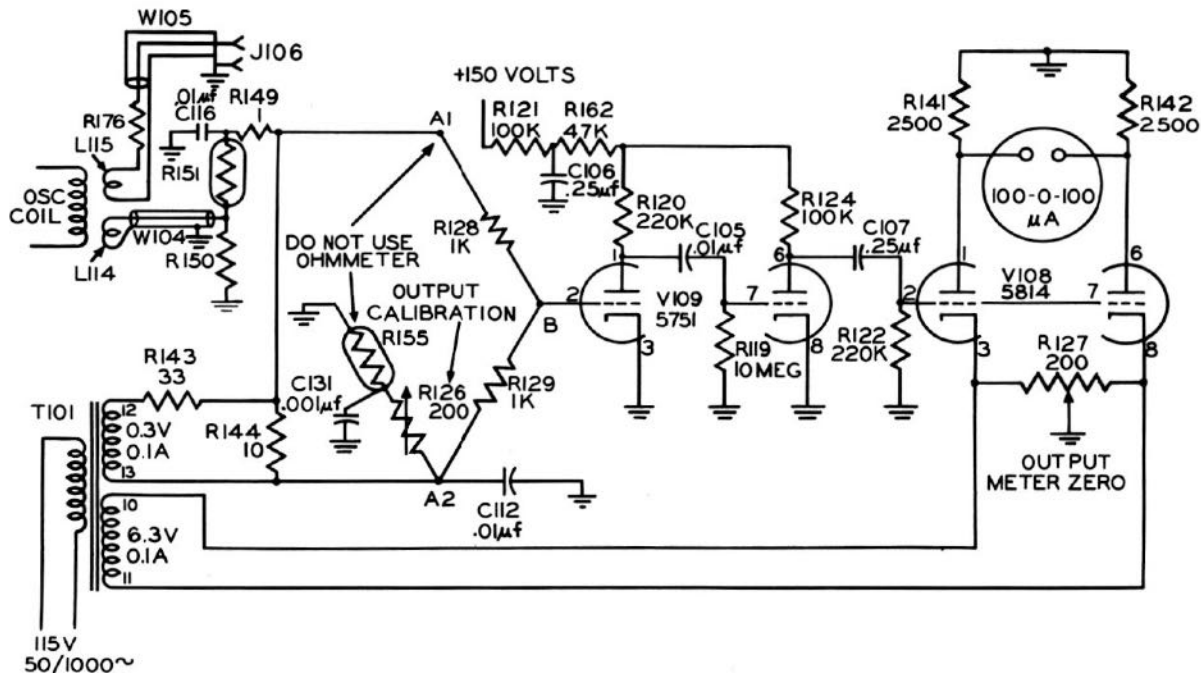
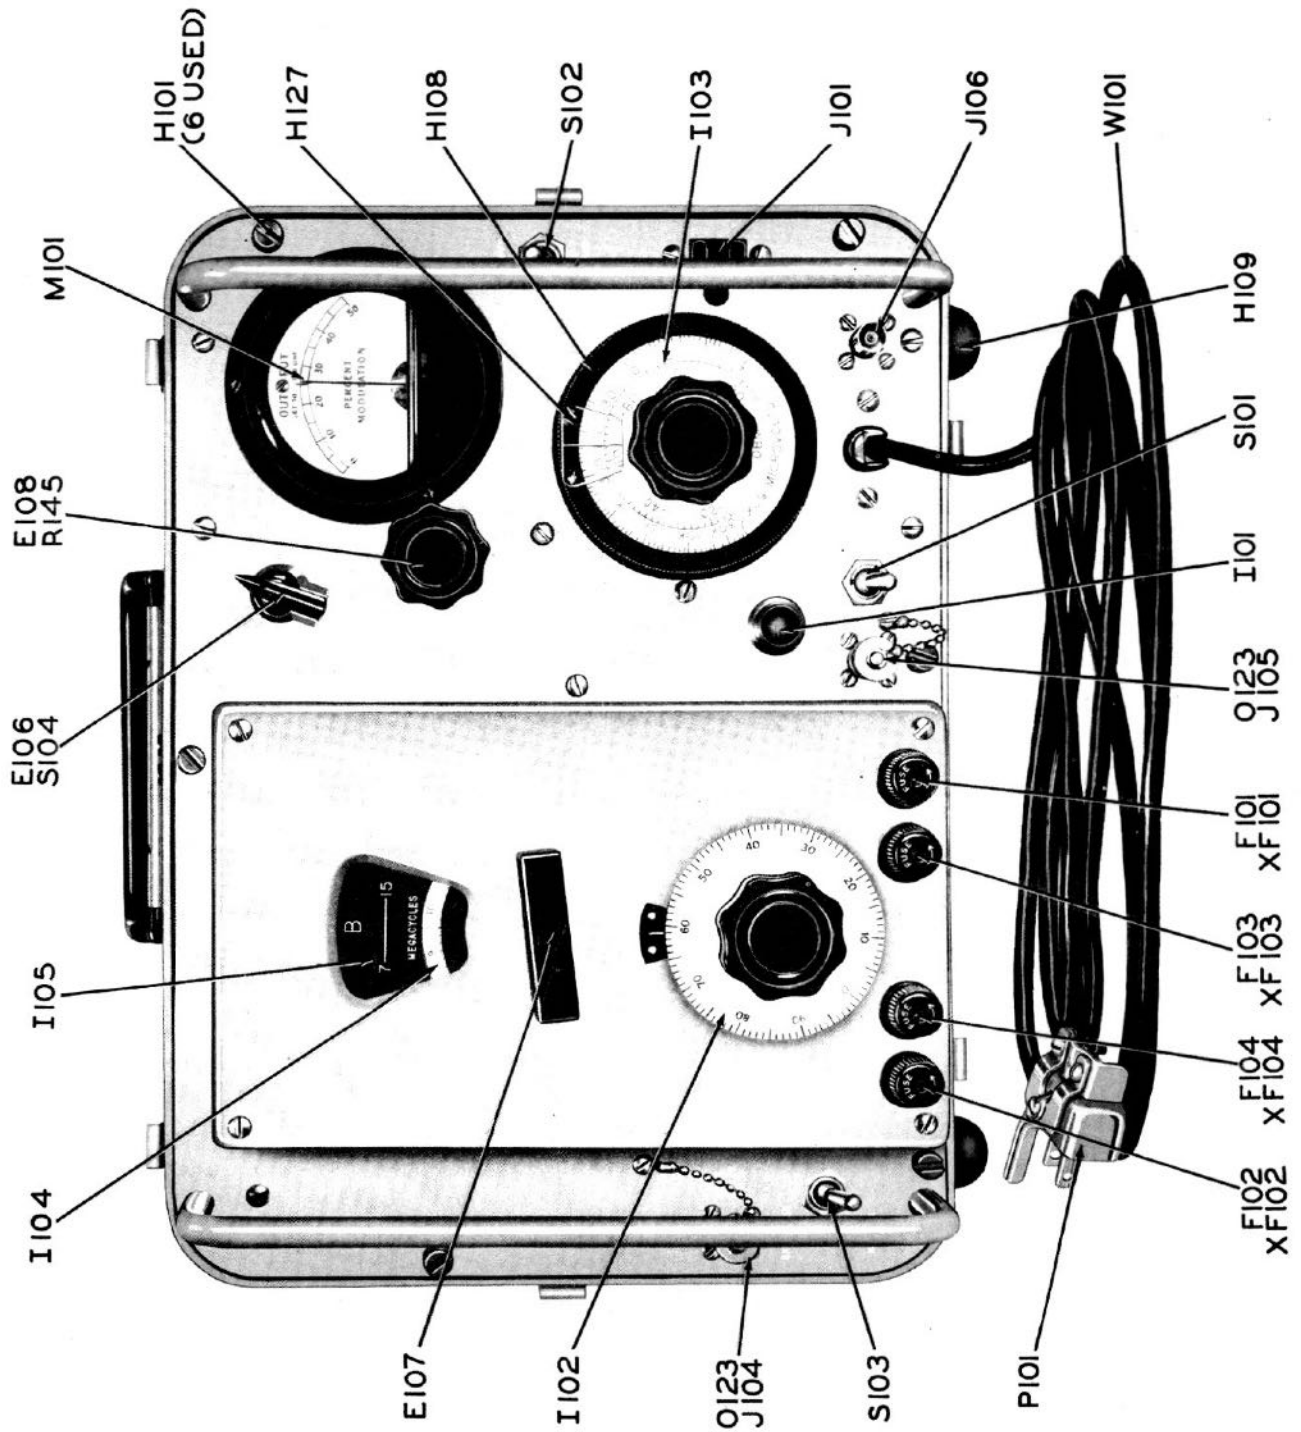

Figure 2-5. RF Signal Generator SG-45A/URM-26, Functional Schematic Diagram, RF Monitor
Figure 4-1. RF Signal Generator SG-45A/URM-26, Front Panel Diagram
The OUTPUT index (see figure 4-1) moves both L-114 and L-115 simultaneously and equally. The positioning of L-114 determines the voltage applied to the bolometer bridge which, in turn, establishes the reference output voltage level. The MICRO-VOLTS dial moves L-115 only and, when L-114 is properly positioned, indicates the voltage across a terminated 50-ohm cable.
d. RF OUTPUT MONITOR CIRCUIT: The output voltage reference level is established by adjusting the OUTPUT index (see figure 4-1) to bring the output meter pointer to the red line. This setting indicates that the high frequency bolometer bridge is in balance. A functional schematic diagram of the bolometer bridge which serves as monitor of RF output is shown in figure 2-5.
For the purpose of simplification, RF filter circuits have been omitted from figure 2-5. The action of the meter tube V-108 is explained in paragraph 2-4c. It is sufficient at this time to state that, with no voltage on the grids of V-108, the meter M-101 reads at center scale; the presence of an ac voltage on these grids will cause the meter to deflect from center scale, the direction being determined by the relative phase of this voltage with respect to the voltage appearing between the cathodes and ground.
(1) Referring to figure 2-5, resistors R-126, R-128, R-129, and bolometers R-151 and R-155 form a Wheatstone bridge circuit which is driven by the ac potential across A₁-A₂. When the voltage drop across R-128 equals that across R-149 and R-151 and the voltage drop across R-129 equals that across R-126 and R-155, no potential difference will exist between point B and ground; this is known as a balanced bridge and is the condition that establishes the output voltage reference level.
(2) Bolometers R-151 and R-155 each consist of a fine platinum wire, sealed in an evacuated glass tube. Current from the RF source and from the 0.3-volt winding of transformer T-101, flowing through these bolometers, will heat their elements thereby causing changes in resistance. In the bridge circuit of figure 2-5, current at power line frequency will flow through both bolometers but current from the RF oscillator flows only through bolometer R-151, being by-passed to ground by capacitor C-116. At RF, resistor R-150 is in shunt with R-151 and serves to terminate cable W-104 in 50 ohms. At power frequencies, R-150 is effectively short-circuited by coil L-114 and, therefore, forms no part of the bridge.
(3) When bridge is balanced, meter M-101 reads at center scale. Displacing the position of L-114 will increase or decrease the resistance of R-151 thereby unbalancing the bridge and causing meter M-101 to read right or left of center scale.
f. Referring back to figure 2-5, the relative phase of the voltage applied to the grids of tube V-108 with respect to the voltage on the cathodes is determined by the resistance of bolometer R-151. When the resistance of R-151 is greater than the value required for balance, (this occurs when L-114 is coupled too tightly to the RF oscillator) the phase of the voltage applied to the grids of tube V-108 will cause meter M-101 to deflect to the right. When coil L-114 is too loosely coupled to the oscillator, the value of R-151 will be less than that required for balance and the phase of the grid voltage at tube V-108 will cause the meter to deflect to the left.
(1) The two-stage amplifier represented by V-109 serves merely to increase the sensitivity of the meter circuit by increasing the magnitude of the voltage developed between point B and ground as a result of bridge unbalance.
c. The following preliminary settings and checks are required prior to placing the signal generator in operation (see figure 4-1, Section 4).
- (1) Place ON-POWER switch S-101 at POWER.
- (2) Make required output connections to equipment under test (see Section 4).
- (3) Rotate MICROVOLTS-DBM dial I-103 to maximum counter-clockwise position.
- (4) Place NORMAL-EXT PULSE ONLY switch S-103 at NORMAL.
- (5) Place AMPLITUDE MODULATION switch S-104 at OFF.
- (6) Rotate % MOD control E-108 fully counter-clockwise.
- (7) Connect power cable W-101 to 115 vac source.
- (8) Place ON-POWER switch at ON.
- (9) Allow equipment to warm up for at least 15 minutes.
a. Panel controls of RF Signal Generator SG-45A/URM-26 are identified in figure 4-1.
(1) The range desired is selected by means of the bar knob beneath the window.
(2) Tuning is varied by the indicator dial directly below the bar knob. This dial has 100 uniform divisions. The dial drive disengages when the frequency dial stops are reached. By pushing the knob toward the bottom of the panel, the tuning drive may be disengaged at any time and the dial repositioned as desired.